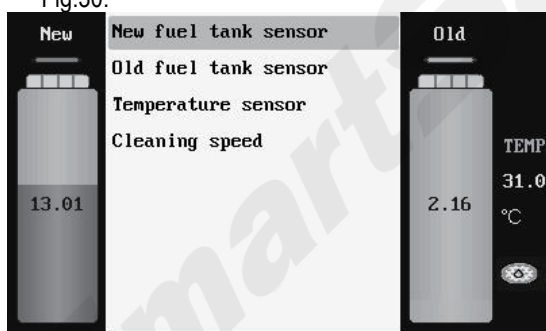

Fig.30
- 1) Select the item for sensor calibration, press ENTER key to enter the sensor calibration menu as shown in Fig.30.